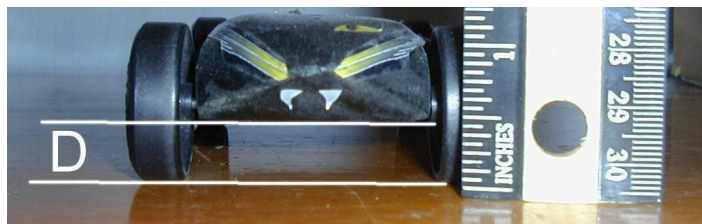

Figure 4: Minimum Car Clearance
- 3.1.5 The minimum clearance between the bottom of the car and the bottom of the wheels shall be $\frac{3}{8}$ inches. (Figure 4: Dimension D)
- 3.2.6 It is recommended that weights on the bottom of the car be inset so they are flush with the bottom of the wood block of the official Pinewood Derby car wood block. Please refer to Section 3.1 Dimensions and Figure 4: Dimension D.